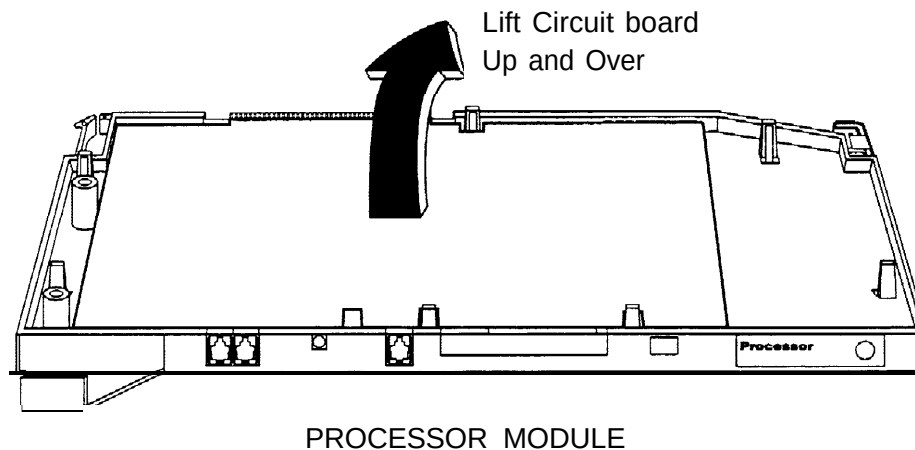

Figure 9-6. Removing the Processor Module Circuit Board
- 6 Holding the processor circuit board at each end, lift it up and turn it over and away from you. See Figure 9-6.